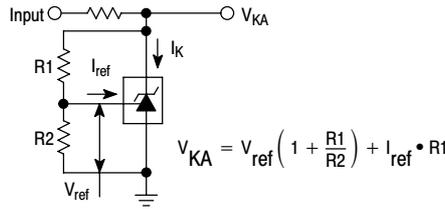

Figure 2. Test Circuit for $V_{KA} > V_{ref}$
| Ratio of Change in Reference Input Voltage to Change in Cathode to Anode Voltage I _K = 10 mA (Figure 2), ΔV _{KA} = 10 V to V _{ref} ΔV _{KA} = 36 V to 10 V | $\frac{\Delta V_{ref}}{\Delta V_{KA}}$ | – – | –1.4 –1.0 | –2.7 –2.0 | – – | –1.4 –1.0 | –2.7 –2.0 | mV/V |
| Reference Input Current (Figure 2) I _K = 10 mA, R1 = 10 k, R2 = ∞ T _A = 25°C T _A = T _{low} to T _{high} (Note 1) | I _{ref} | – – | 1.8 – | 4.0 6.5 | – – | 1.8 – | 4.0 5.2 | μA |
| Reference Input Current Deviation Over Temperature Range (Figure 2, Note 1, 4) I _K = 10 mA, R1 = 10 k, R2 = ∞ | ΔI _{ref} | – | 0.8 | 2.5 | – | 0.4 | 1.2 | μA |
- The dynamic impedance Z_{KA} is defined as: |Z_{KA}| = $\frac{\Delta V_{KA}}{\Delta I_K}$. When the device is programmed with two external resistors, R1 and R2, (refer to Figure 2) the total dynamic impedance of the circuit is defined as: |Z_{KA}'| ≈ |Z_{KA}| (1 + $\frac{R1}{R2}$)
| Ratio of Change in Reference Input Voltage to Change in Cathode to Anode Voltage I _K = 10 mA (Figure 2), ΔV _{KA} = 10 V to V _{ref} ΔV _{KA} = 36 V to 10 V | $\frac{\Delta V_{ref}}{\Delta V_{KA}}$ | – – | –1.4 –1.0 | –2.7 –2.0 | – – | –1.4 –1.0 | –2.7 –2.0 | – – | –1.4 –1.0 | –2.7 –2.0 | mV/V |
| Reference Input Current (Figure 2) I _K = 10 mA, R ₁ = 10 k, R ₂ = ∞ T _A = 25°C T _A = T _{low} to T _{high} (Note 4) | I _{ref} | – – | 1.8 – | 4.0 6.5 | – – | 1.8 – | 4.0 5.2 | – – | 1.1 – | 2.0 4.0 | μA |
| Reference Input Current Deviation Over Temperature Range (Figure 2, Note 4) I _K = 10 mA, R ₁ = 10 k, R ₂ = ∞ | ΔI _{ref} | – | 0.8 | 2.5 | – | 0.4 | 1.2 | – | 0.8 | 2.5 | μA |
6. The dynamic impedance Z_{KA} is defined as $|Z_{KA}| = \frac{\Delta V_{KA}}{\Delta I_K}$ When the device is programmed with two external resistors, R₁ and R₂, (refer to Figure 2) the total dynamic impedance of the circuit is defined as: $|Z_{KA}'| \approx |Z_{KA}| \left(1 + \frac{R_1}{R_2} \right)$